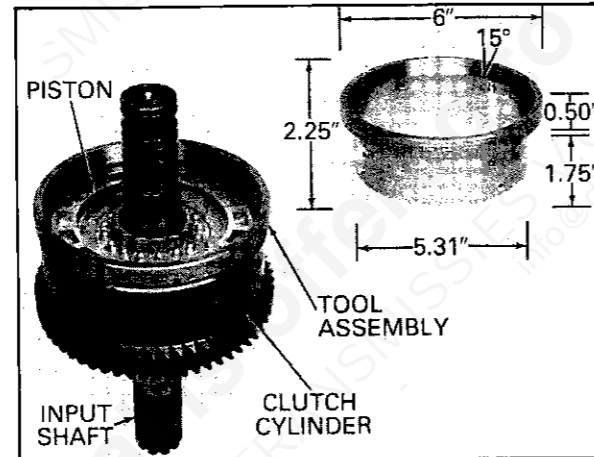

FIG. 22 CLUTCH PISTON INSTALLATION
16. Using a tapered cylindrical tool as shown, install the piston and seal into each clutch cylinder (Fig. 22). A piece of shim stock, 0.004 inch (0.1 mm) thick or less which is 3 inches (76 mm) wide and 16 inches (406 mm) long, may be wrapped around the inside of the clutch cylinder to guide the lip of the seal into the cylinder if a special tool is not available.